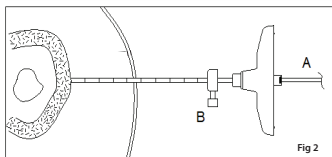

Fig 2
FIG. 2 Unlock and remove the Drill Insert (C) from the Cutting Cannula (B). Slide the Cutting Cannula (B) down over the Guide Rod (A) until in contact with the skin. Introduce, rotating counterclockwise, the Cutting Cannula (B) until in contact with the bone.